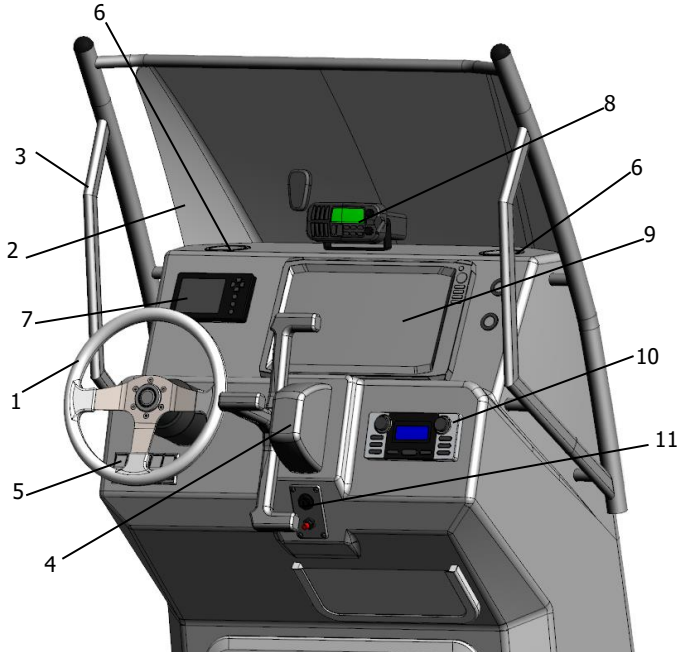

Fig. 69. Steering console components (see the list on the next page).
***Steering console components (see fig. 69 on the previous page):***